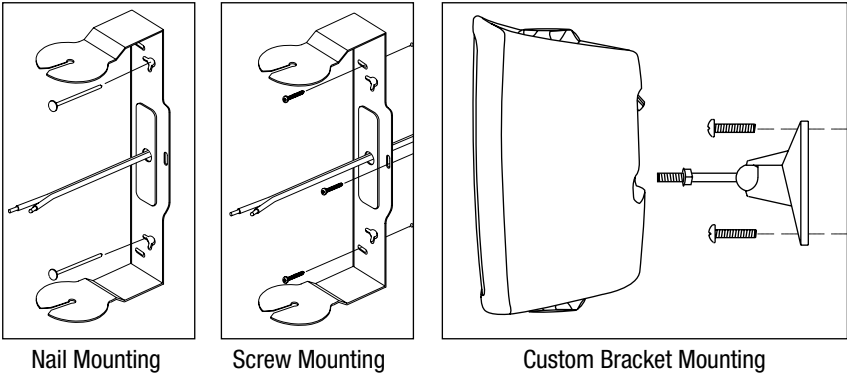

Figure 8. The OS loudspeakers can be mounted three ways.
- 1. If the loudspeaker is never going to be exposed to sudden accidental impacts, wind, waves, or earthquakes, you can simply hang it on a nail using the nail hole(s) on the bracket (see **Figure 8** on the next page).*
- 2. The safest and most secure way to mount the loudspeaker is by screwing it to the mounting surface using your own hardware (suitable for the surface you are mounting to) and the bracket supplied with the loudspeaker (see **Figure 8**).*
- 3. There is a threaded brass insert (1/4" – 20) on the back of the OS loudspeakers for attaching a custom bracket (see **Figure 8**). This allows you to position the loudspeaker at unusual angles or varying distances from the mounting surface.*